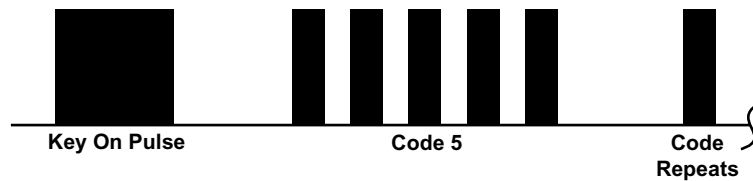

Figure 4-25 Acura transmission Code Type 02
- Type 02, see Figure 4-25 and Table 4-6